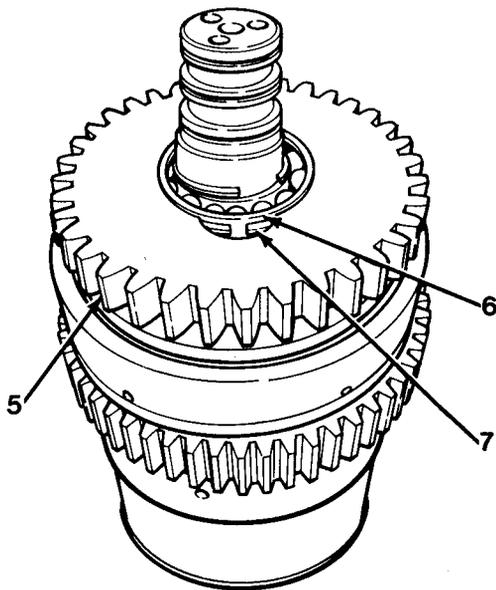

Figure 11-15
27. Open snap ring (7) to install bearing (6) into forward and rear welded assembly (5, Figure 11-15).